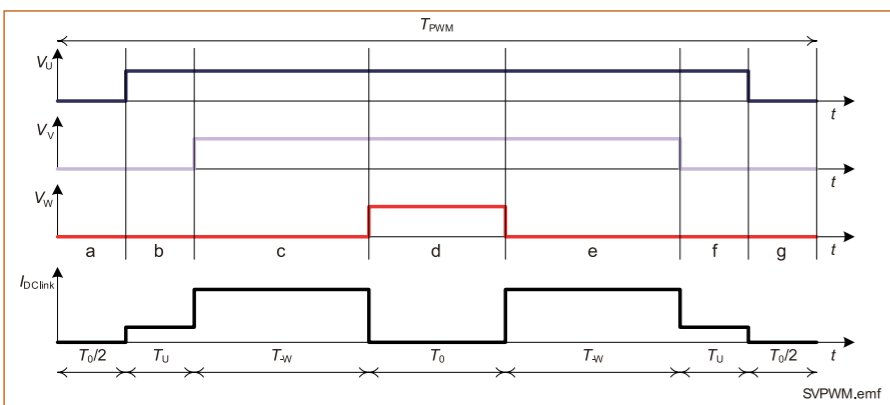

Figure 2: Space Vector Pulse Width Modulation: Three-phase inverter output signal and DC-link current I_DcLink.
The space-vector algorithm will determine the time required at a first active state, a second active state, and an inactive state to produce the desired magnitude and angle of the space vector. See figure 2 as an example. The first active state (b&f) is T_u, the second active state (c&e) is T_w, the inactive state is T₀ which appears twice, first as (000) vector (a&f), second as (111) vector (d).